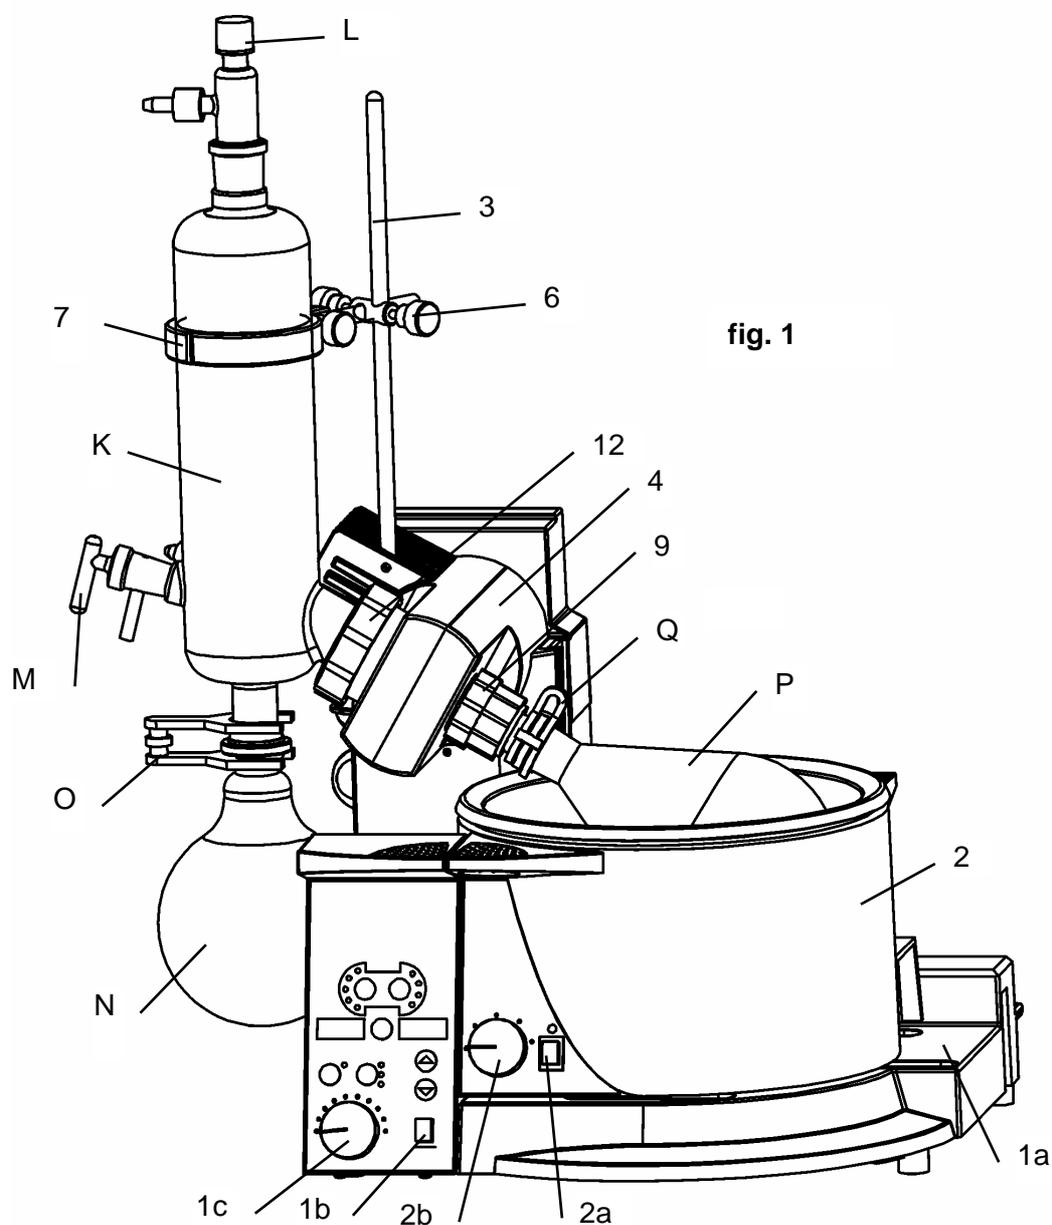

fig. 1
1. Item set-up (fig. 1)
- Locate hot bath (2) feet in rails of console (1a). Controls facing forward.
- All of the four feet of the hot bath feature height adjustment, to prevent tipping. Re-adjust feet as required until hot bath (2) properly is seated on console (1a).
2. Electric wiring (figs. 1, 2 and 3)
(refer to figs. 1 & 4)
- First secure bar (3) in threaded hole (4) with hex-key screw (5). Tilt bar (3) to fit the condenser (K) to be held.
- Fit cross sleeve (6) on bar (3) and secure with clamp screw.
- Plug condenser clamp (7) in cross hole of cross sleeve (6) and secure with clamp screw.
4. Install vapor tube (refer to figs. 1,5,6,7 & 8)
- The vapor tube ass'y. (8) is packed with the glassware kit. First remove coupling ring from flange (12), remove cocking spring (13) and PTFE-seal (11), unthread vapor tube coupling ring (9) from drive (4) and remove clamping sleeve (10) by pulling.
- Slip coupling ring (9) and clamping sleeve (10) on vapor tube (8), bead pointing forward.
5. Install glassware set G1 (Figs. 1 & 9)
- Unscrew coupling ring (12) from drive head and remove cocking spring (13). Slide coupling ring (12) over condenser (K) flange. Slide cocking spring (13) over flange as well. Screw condenser (K) on drive head with coupling ring (12), pressing flange against PTFE seal 26 (11).
- Cooling water is connected to studs (W) with fitting (H) and threaded cap GL 14 (G).
- Collecting flask (N) is secured to condenser (K) with a clamp (O). The clamp (O) is secured by turning the knurled screw clockwise. Attach evaporator flask (P) to vapor tube 26 (8) with clamp (Q).
- Inlet pipe (M) is inserted into ground glass fitting at the far end of the condenser (K). Doing this connection, make sure drip ring is located on the PTFE tube as to prevent condensate from flowing back into evaporator flask (P).
- Insert supplied inlet tube (S) through cap (E) and washer (D) mounted on inletcock. Secure tube by turning cap clockwise.
- Boil-temperature sensor (P/N 591.00030.00) may be installed instead of threaded cap GL 18 (11). Not using a boil-temperature sensor, close fitting with threaded cap GL 18 (11).
- Vacuum is connected to fitting (V) with connector (H) and threaded cap GL 14 (G).
- Before lowering the lift, locate hot bath centrally underneath evaporation flask (P).
6. Install glassware set G3 (Figs. 1 & 10)
- Unscrew coupling ring (12) from drive head and remove cocking spring (13). Slide coupling ring (12) over condenser flange (K).
- Slide cocking spring (13) over the flange as well. Screw condenser (K) on drive head with coupling ring (12), pressing flange against PTFE seal 26 (11).
- Arrange condenser clamp (7) on condenser (K) and secure on column (3) with clamp screws. Match column (3) tilt to condenser (K). For more details about installation of condenser holder, refer to page 31.
- Cooling water is connected with studs (W), hose fitting (H) and threaded cap (G).
- Collecting flask (N) is secured on condenser (K) with a clamp (O). The flask clamp (O) is secured in place by turning the knurled-head screw clockwise.
- Connect evaporator flask (P) with vapor tube 26 (8); use clamp (Q).
- The inlet pipe (M) is inserted into the ground glass stud on the left of the condenser. When doing this connection, make sure drip ring is located on the PTFE tube as to prevent condensate from flowing back into evaporator flask (P).
- Trim PTFE hose until reaching bottom of the evaporator flask (P).